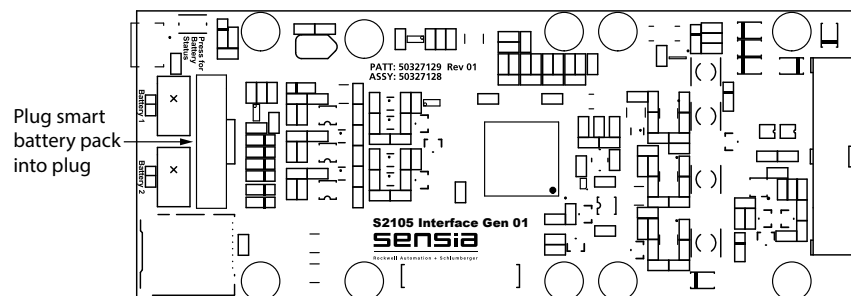

Figure 3.4 - Smart battery pack connection at the end of the main board
- Connect the smart battery pack to the smart battery pack connector, shown in Figure 3.4.